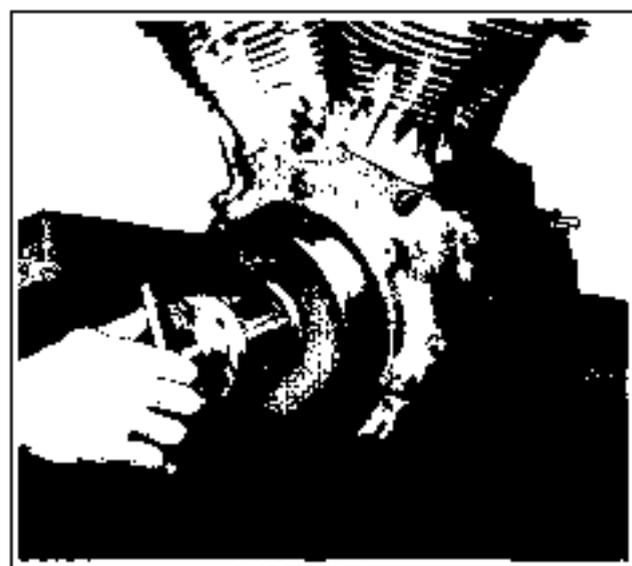

Figure 5-13. Pulling Alternator Rotor
6. Remove sprocket spacer from sprocket shaft. Using Puller, Part No. 85860-52A, pull alternator rotor from sprocket shaft as shown in Figure 5-13.